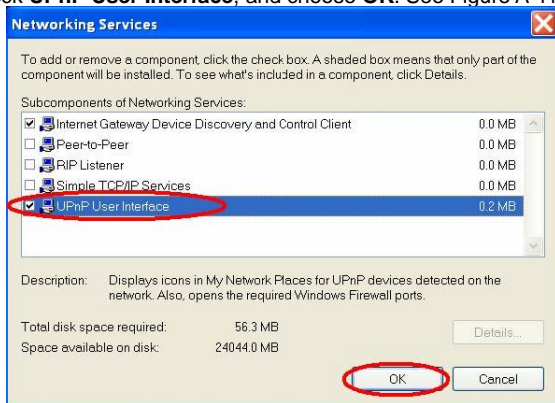

Figure A-11
**Step 4:** Check **UPnP User Interface**, and choose **OK**. See Figure A-11.